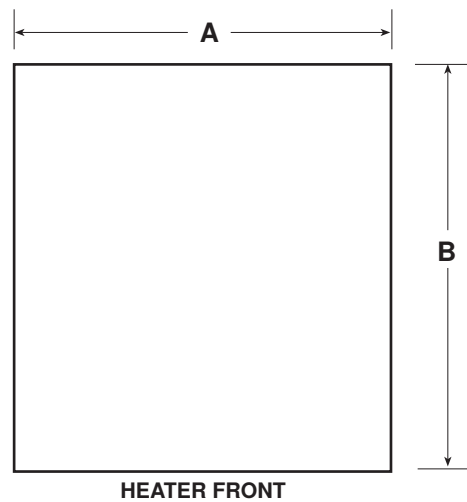

Figure 20. Bottom Return Air Filter Cabinet Duct Opening Dimensions (Refer to Table 10)
3. Connect return air duct to duct flange on bottom of filter cabinet. Duct opening dimensions are shown in Figure 20 and listed in Table 10.
Dimension (See Figure 20)	Unit Size (MBTUh)